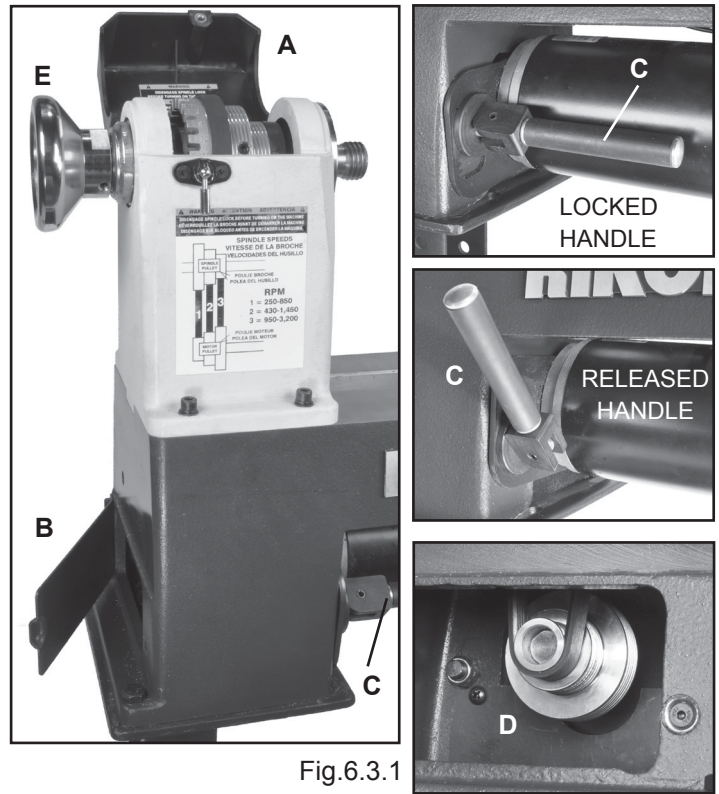

Fig.6.3.1
2. Open the top Headstock Cover (#14B, FIG. 6.3.1, A) and the left side, Bed Cover Plate Door (#44A, B) to gain access to the belt and pulleys that are inside of the headstock.
- Pull the handle forward to unlock. FIG. 6.3.1, C.
4. Remove the Belt (#38B) from the lower Motor Pulley (#24A; FIG. 6.3.1, D). NOTE: If the belt is not to be saved, the old belt can be cut off at this time.
5. To remove the Handwheel (#1B, FIG. 6.3.1, E), loosen the two (2) Set Screws (#2B). Then use the 38mm Wrench on the flat portion of the spindle, and loosen the faceplate from the spindle by hand. Rotate the handwheel counter-clock-wise to fully remove it from the spindle.